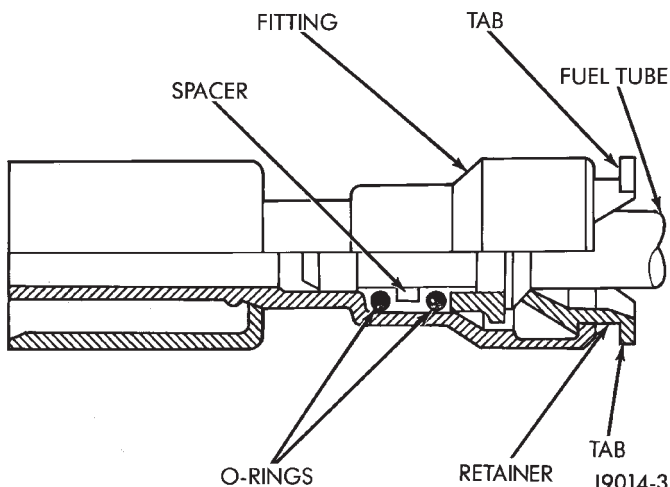

Fig. 18 Quick-Connect Fitting Removal
(1) Disconnect negative battery cable. Remove fuel filler cap.
(2) Release fuel system pressure. Refer to the previous Fuel Pressure Release Procedure in this section.
(3) Raise and support vehicle.
(4) Place shop towels under fuel filter.
(5) Disconnect fuel lines at filter by pressing on two tabs located on fuel line (Fig. 18).